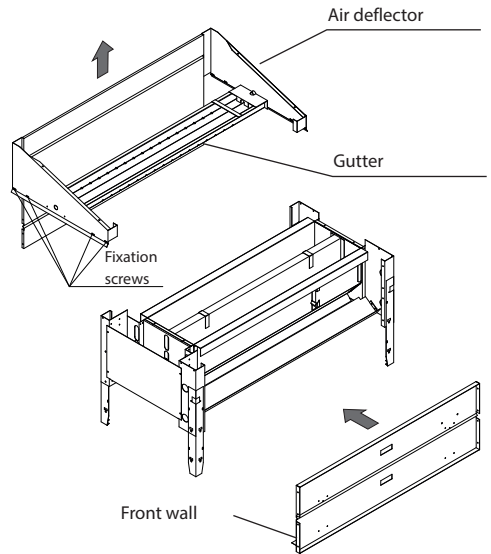

Fig. 3
- Unscrew 8 fixation screws on the sides of the deflector (see Fig. 3)